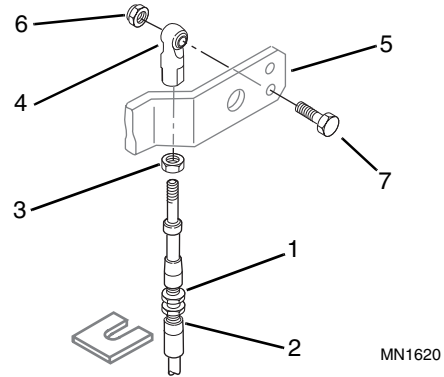
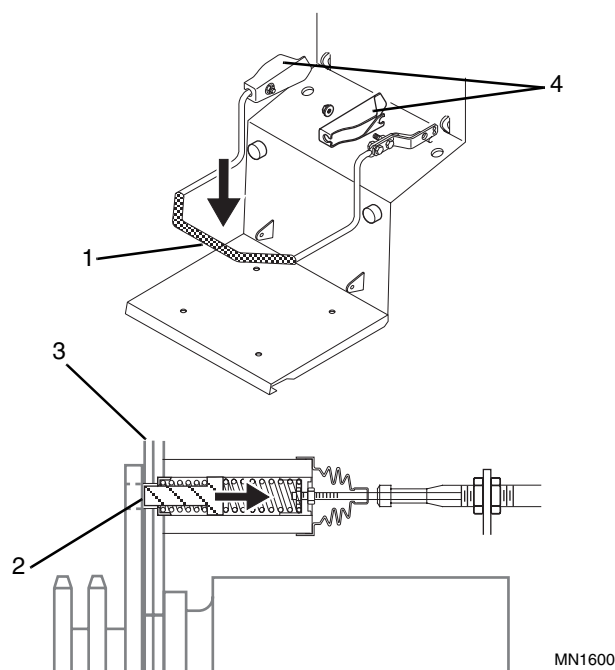

Figure 7-86 Park Lock Cable Operator's Protective Structure Mount
Figure 7-88 Park Lock - Disengaged
1. Inspect both park lock cables where they mount to the rear of the Operator's Protective Structure. An equal number of threads should be visible on each side of the bulkhead nuts (Fig. 7-86, 1 & 2) on each cable. If not, readjust as required until they are equal.
5. Lower the seat bar (Fig. 7-88, 1) to retract both lock pins. The face of each lock pin (2) must be flush with the inner wall of each respective chain case (3) with the seat bar lowered. The lock pin position is adjusted by moving the ball joint on the cable end at the seat bar.
6. At the rear of the seat bar, loosen the hex jam nut (Fig. 7-86, 3) against the ball joint (4).
7. Detach ball joint (Fig. 7-86, 4) from seat bar (5) by removing the elastic locknut (6) and capscrew (7). Discard locknut.
8. Turn the ball joint (Fig. 7-86, 4) onto the cable to retract either pin (Fig. 7-88, 2) away from the drive sprocket. Turn the ball joint toward the end of the cable to extend either pin closer to the drive sprocket.
9. With the seat bar still lowered, temporarily attach both ball joints (Fig. 7-86, 4) to the seat bar and inspect each pin position again. Repeat Step 8 as required until the face of the each lock pin (Fig. 7-88, 2) is flush with the inner wall of the respective chain case (3).
11. Secure each cable ball joint (Fig. 7-86, 4) to the seat bar (5) with capscrew (7) and a new elastic locknut (6). Tighten the hex jam nut (3) on each cable to the ball joint (4).
12. Replace both seat bar spring covers (Fig. 7-88, 4).